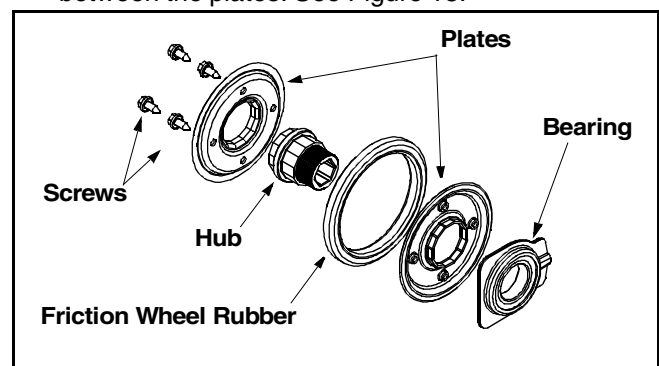

Figure 18
- Remove the four screws from the friction wheel assembly. Remove the friction wheel rubber from between the plates. See Figure 18.